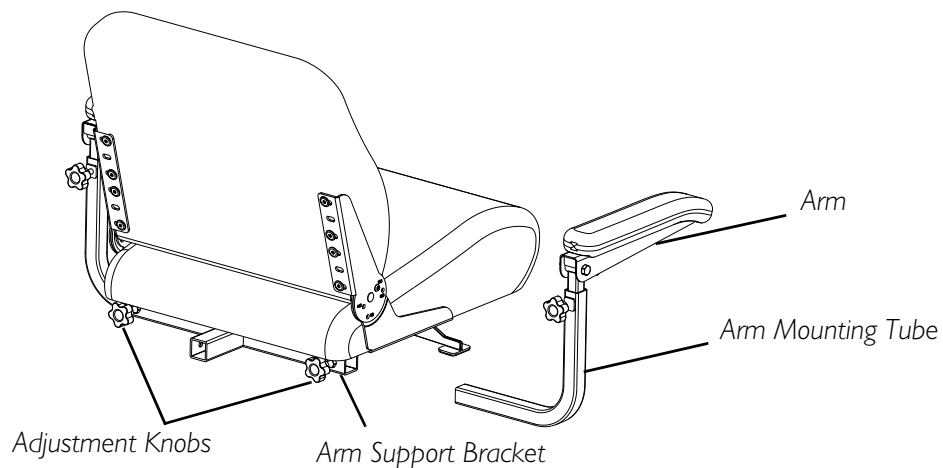

FIGURE 8.1 - REMOVING/INSTALLING/ADJUSTING ARMS
NOTE: For this procedure, refer to FIGURE 8.1.
1. Loosen the adjustment knob located beneath the seat frame on the arm support bracket. Refer to FIGURE 8.1.